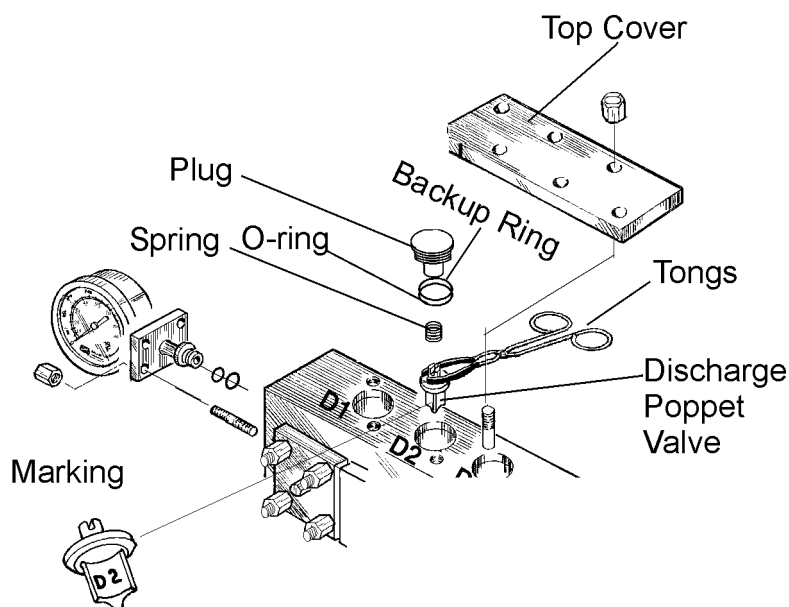

Figure 47 Installing Discharge Valves
12. Use tongs to lower matching numbered of each of the discharge valves (D1, D2, etc.) into top port. See Figure 47
13. Place spring over valve top. See Figure 47.